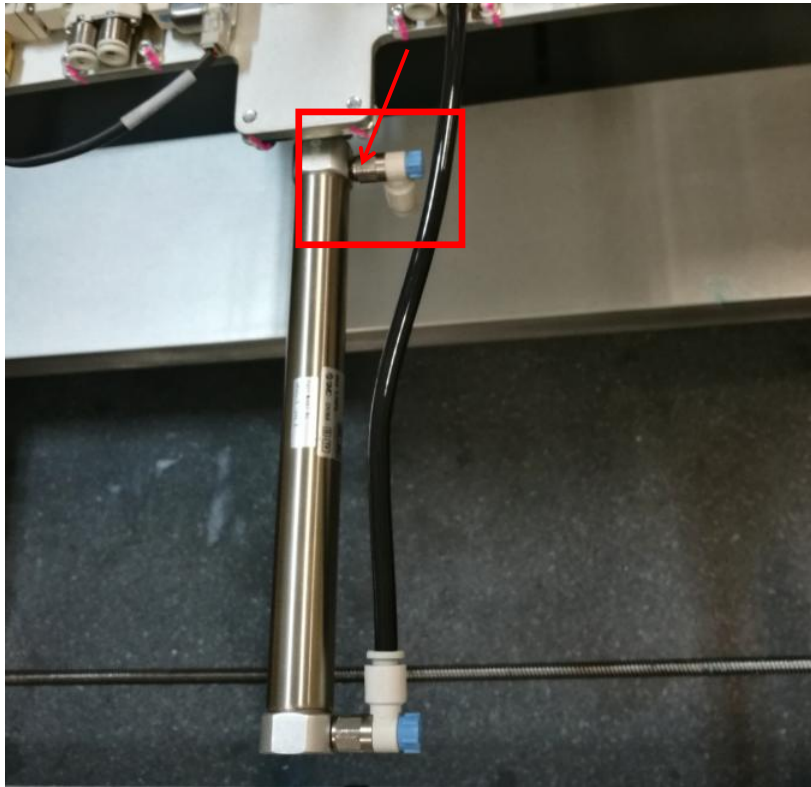

Figure 9 Speed control fitting removal
17. Remove Speed controller Fitting by Adjustable Wrench as shown in Figure 9